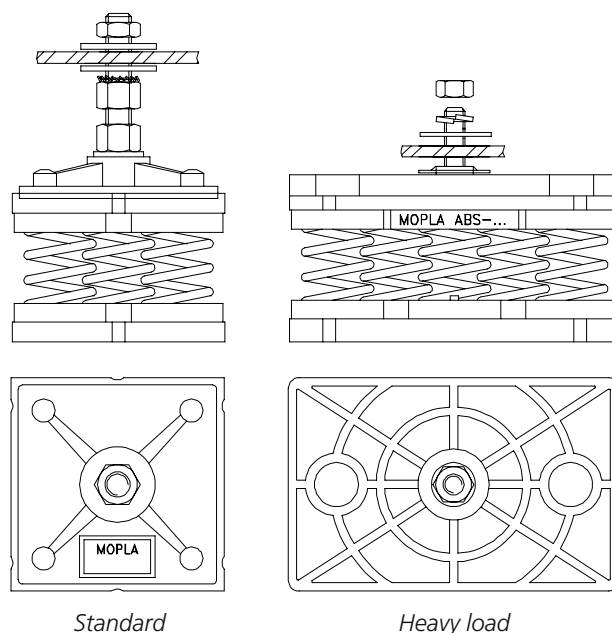

Fig. 8
(Fig. 8)
- The flow switch can be removed by screwing out the plastic knurled union nut. In order to reassemble it, ensure that the O-ring seal is positioned in the proper location. (See figure 8).